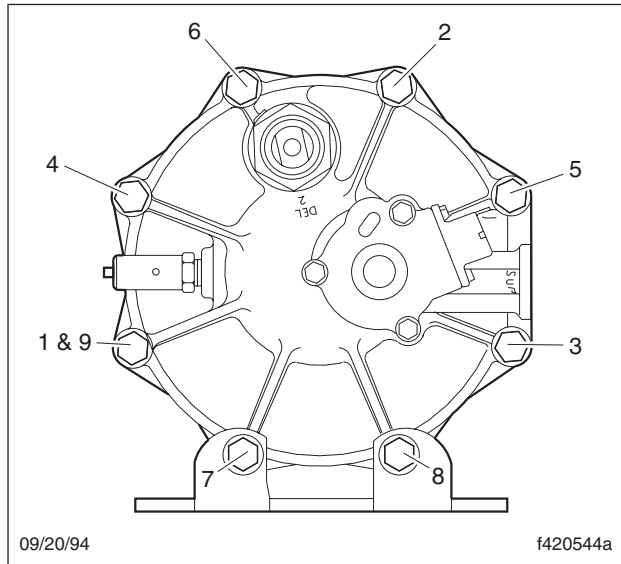

Fig. 2, AD-9 End Cover to Housing Torque Pattern
16. Install the 6 bolts, 12 washers, and 6 new Nylok nuts. Torque the Nylok nuts in a star pattern 17 to 24 lbf·ft (23 to 33 N·m). See **Fig. 2**.